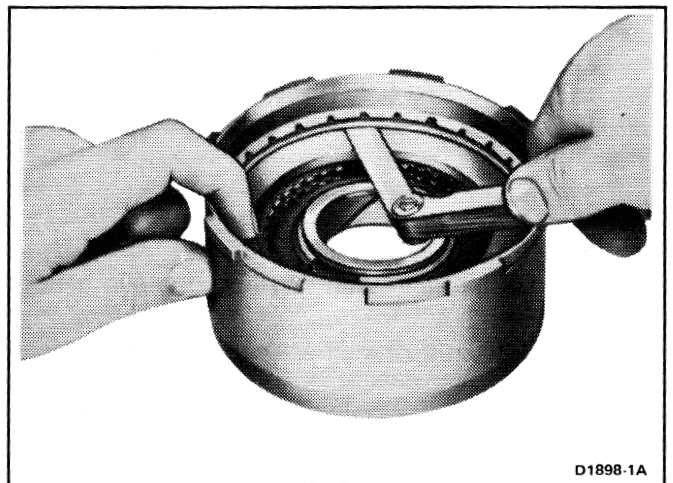

FIG. 47 Checking Reverse-High Clutch Snap Ring Clearance
8. With a feeler gauge, check the clearance between the pressure plate and snap ring (Fig. 47).